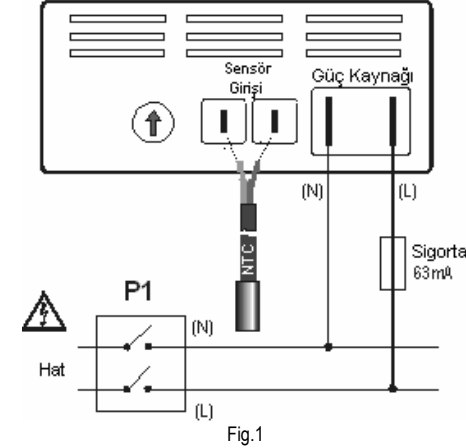

Fig.1
**3. KURULUM - 230V VEYA 115V (FIG.1)**
**4. SENSÖR DEĞİŞTİRLMESİ (FIG.1)**